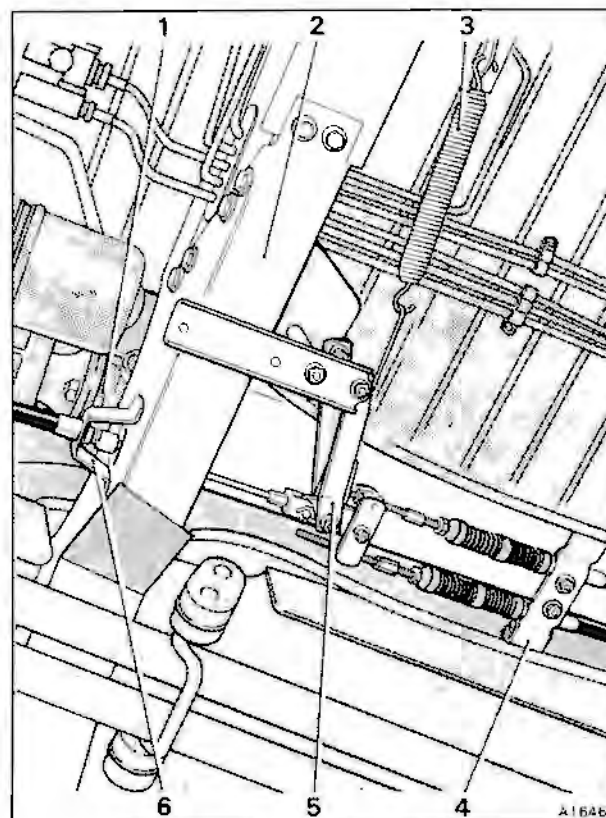

Fig. G20-1 Parking brake intermediate linkage
2. At the intermediate linkage on the underside of the body, unhook the parking brake return spring from the operating lever. Remove the clevis pin attaching the front brake cable to the lever (see fig. G20-1).